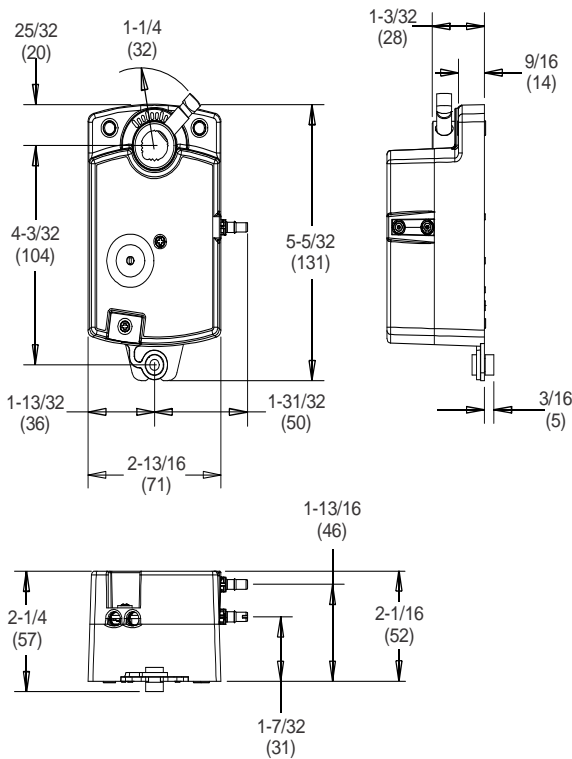

Figure 2: M9104 Series Electric Non-Spring Return Actuator Dimensions, in. (mm)
1. Check that the damper blade is visually accessible, or its position is permanently marked on the end of the damper shaft, as illustrated in Figure 2.